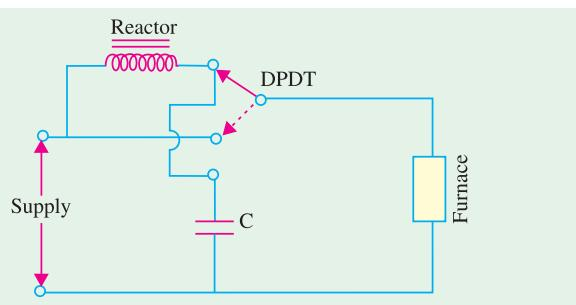

Fig. 47.9
**(d) Series Reactor Voltage.** In this case, a heavy-duty core-wound coil is placed in series with the furnace as and when desired. Due to drop in voltage across the impedance of the coil, the voltage available across the furnace is reduced. With the help of D.P.D.T. switch, high/low, two-mode temperature control can be obtained as shown in the Fig. 47.9. Since the addition of series coil reduces the power factor, a power capacitor is simultaneously introduced in the circuit for keeping the p.f. nearly unity. As seen, the inductor is connected in series, whereas the capacitor is in parallel with the furnace.